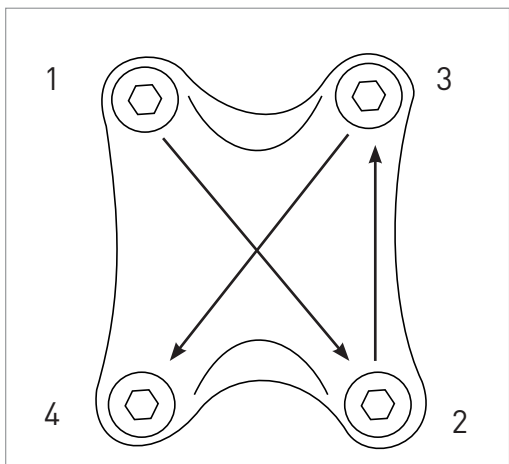

Figure 2
10. Remove and lubricate the handlebar clamp bolt threads with grease. Inspect the stem and handlebar clamping area for any burrs. Lightly clamp the handlebar face plate onto center of the handlebar, inserting and tightening both bolts just enough to hold the bar. Center and rotate the handlebar to the desired position. Alternately tighten the bolts working from the upper left, to the lower right, to the upper right, to the lower left in half-turn increments until they reach an equal reading of 5-8Nm (fig. 2). The upper and lower gaps between the front cap and the rear portion of the handlebar clamp should be equal. Install the components onto the handlebar, if necessary.